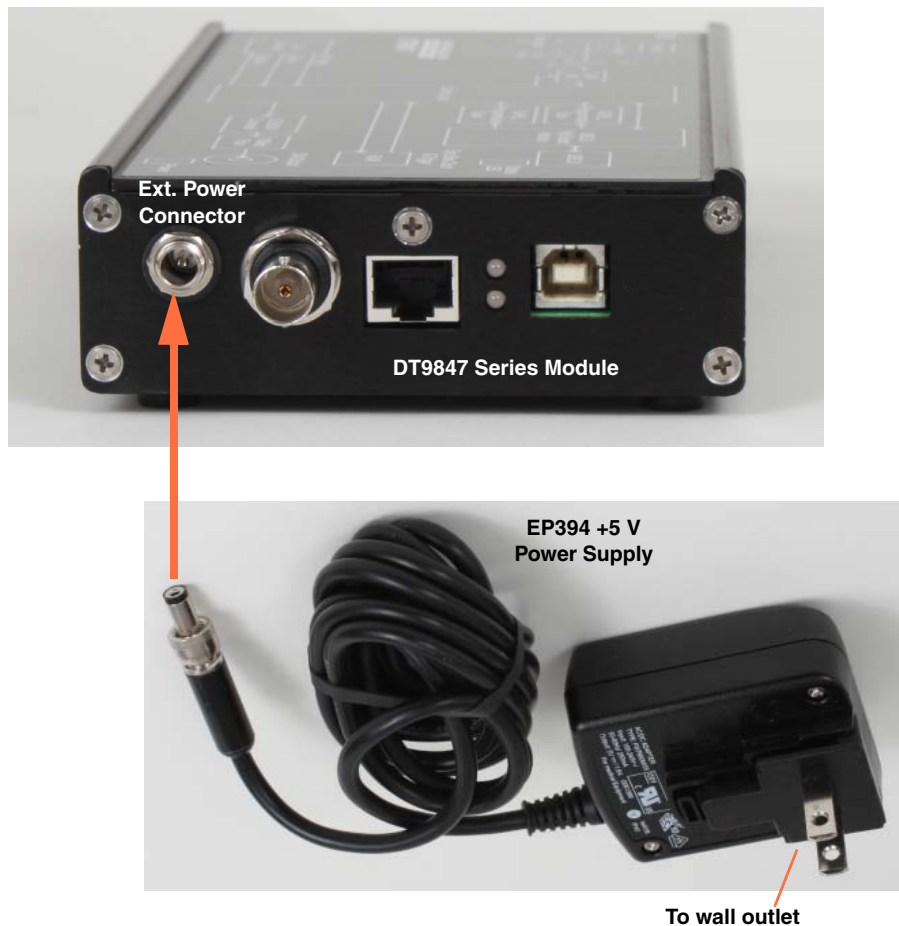

Figure 6: Attaching a +5 V Power Supply to the DT9847 Series Module
1. Connect the EP394 +5 V power supply to the external power connector on the DT9847 Series module. Refer to Figure 6.